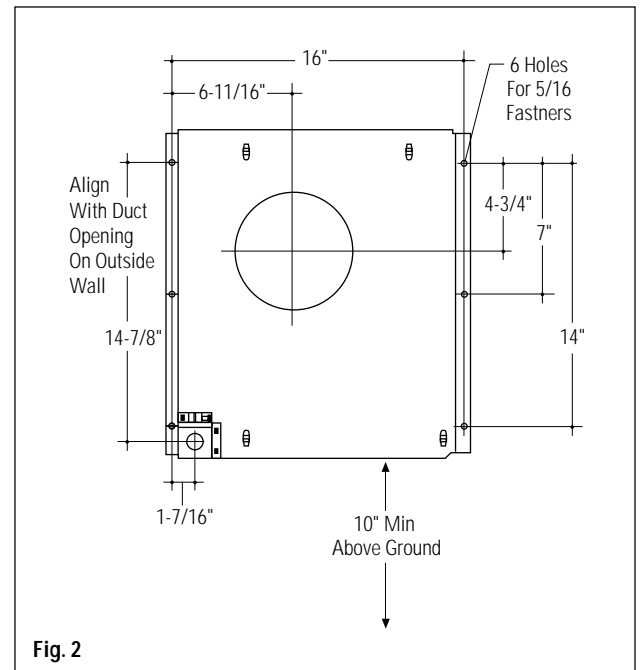

Fig. 2
- The base is designed to be mounted to studs on 16" centers. Use the dimensions in Fig. 2 to determine the location of the ducting and wiring through the wall.